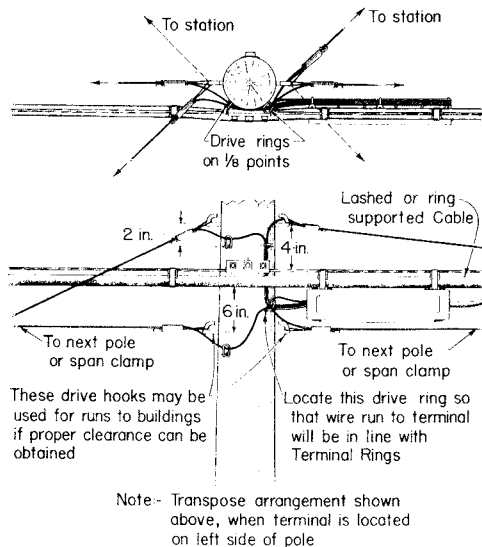

Fig. 1 — Strand Mounted Terminal
2.02 The wiring arrangements for strand mounted and pole mounted terminals are indicated in Fig. 1, 2, and 3.